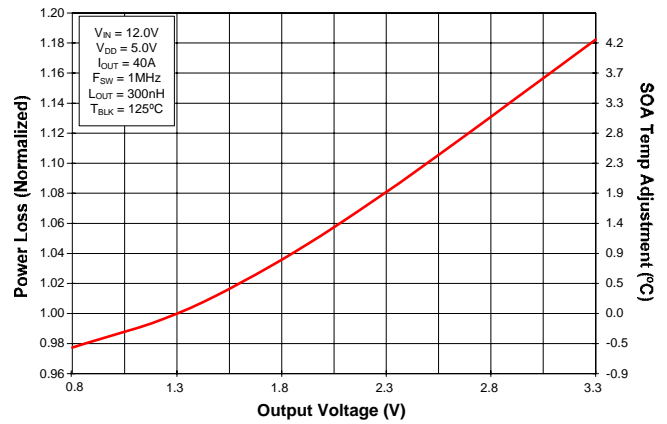

Figure 4 Normalized Power Loss vs. Output Voltage
| (Figure 4) | Normalized power loss for output voltage $\approx$ 1.0    |
- (Figure 4) SOA temperature adjustment for output voltage  $\approx 0.0^{\circ}\text{C}$